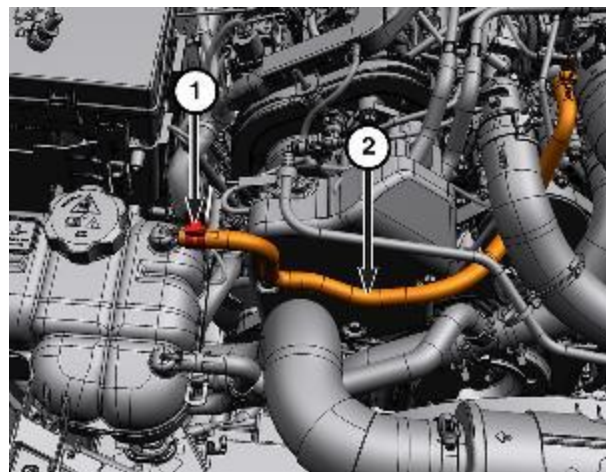

Figure 11 – Degas Hose
5. Release the hose clamp (1) and set the degas hose (2) aside (Figure 11).